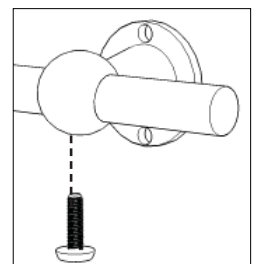

Figure 5
Attach Foot Rest (Q) to Foot Rest Supports (P) with Head Cap Bolts (short), leaving the same amount of Foot Rest (Q) protruding on the outside of the outer Foot Rest Supports (P). (See Figure 5)